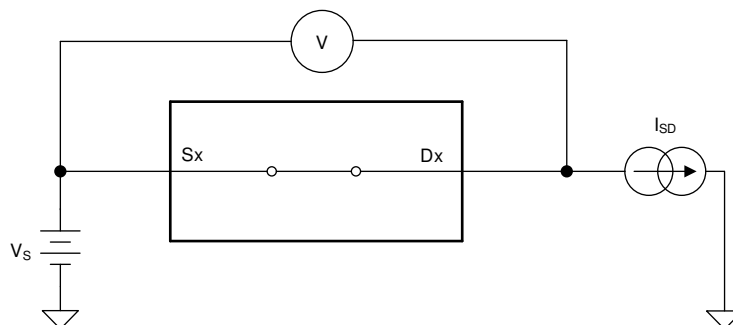

Figure 17. On-Resistance Measurement Setup
The on-resistance of a device is the ohmic resistance between the source (Sx) and drain (Dx) pins of the device. The on-resistance varies with input voltage and supply voltage. The symbol R_{ON} is used to denote on-resistance. The measurement setup used to measure R_{ON} is shown in Figure 17. Voltage (V) and current (I_{SD}) are measured using this setup, and R_{ON} is computed as shown below with $R_{ON} = V / I_{SD}$: